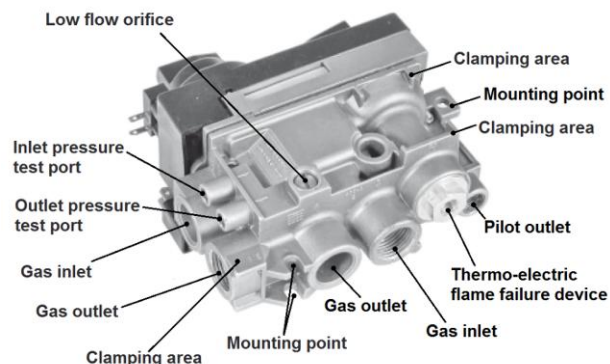

Figure 17 – GV60 Valve Configuration (Side)
When threads are tightened, the valve must be held at the designated clamping areas (see Figure 17). DO NOT apply pressure to top casting or plastic cover.
1. Connect a pressure manometer to the valve outlet pressure tap. Pressure tap is opened by turning the screw counter-clockwise (see Figure 17).